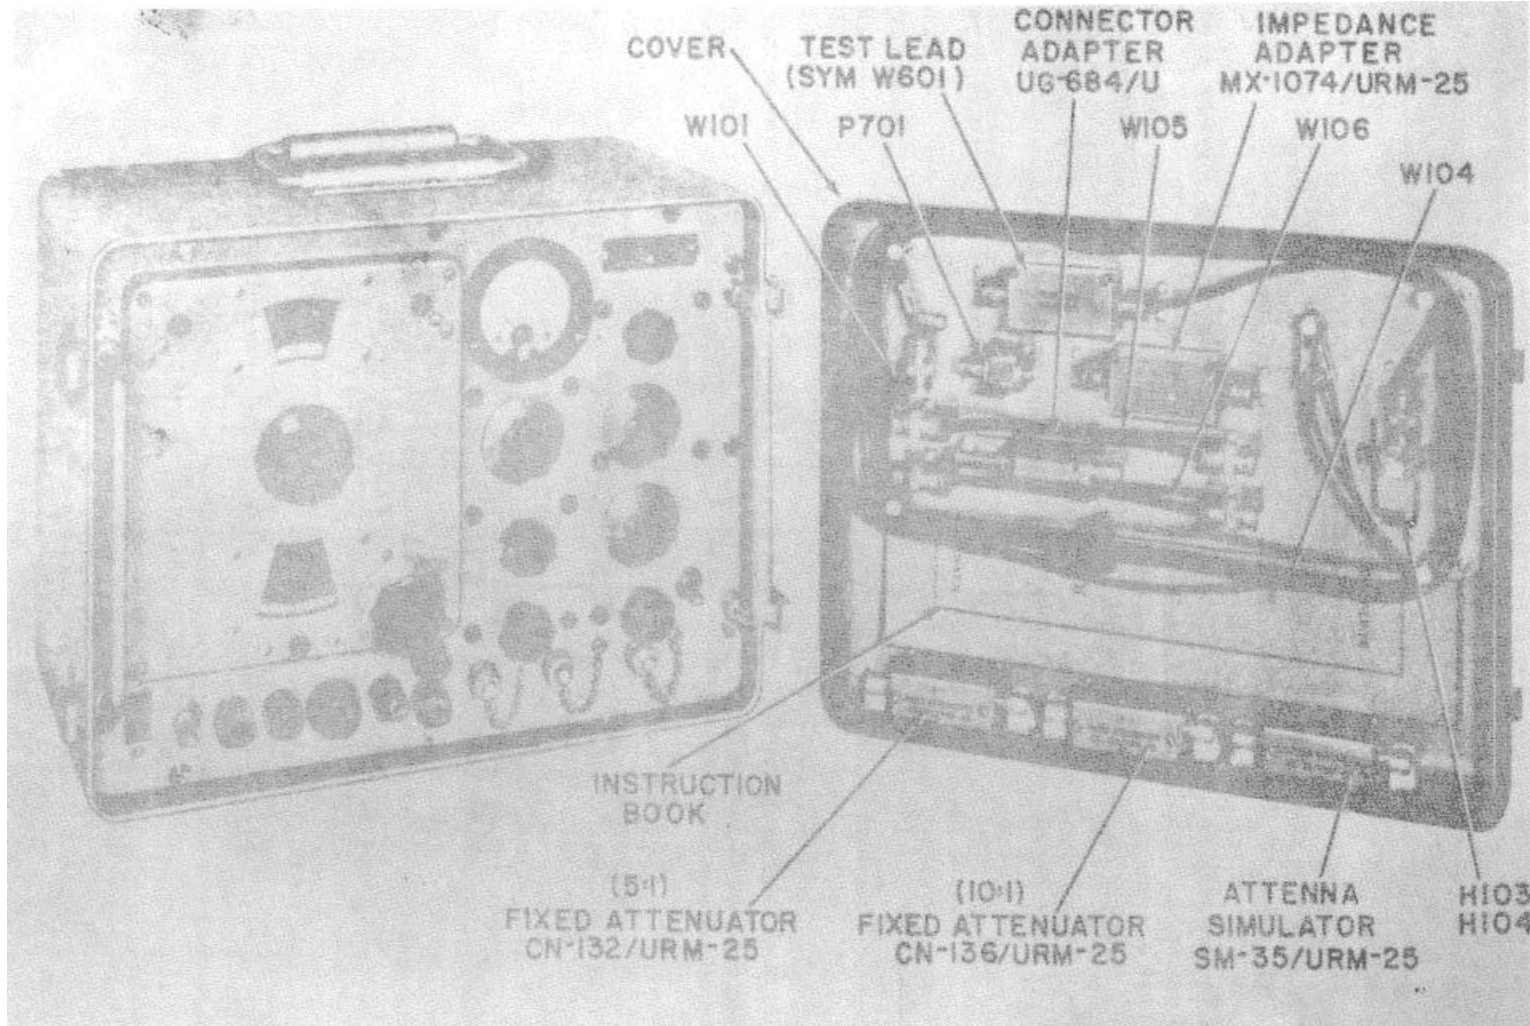

Figure 1-1. RF Signal Generator Set AN/URM-25B, Complete Equipment
b. All units including the power supply, are incorporated in a single portable cabinet (See figure 1-1). The units supplied with their corresponding weights are shown in Table 1-1.
- (1) RF Signal Generator SG-44B/URM-25
- (2) Power Supply PP-562A/URM-25
- (3) Impedance Adapter MX-1074/URM-25
- (4) Antenna Simulator SM-35/URM-25
- (5) (5:1) Fixed Attenuator CN-132/URM-25
- (6) (10:1) Fixed Attenuator CN-136/URM-25
- (7) Test Lead CX-1363/U
- (8) RF Cable Assembly CG-409A/U (4'0")